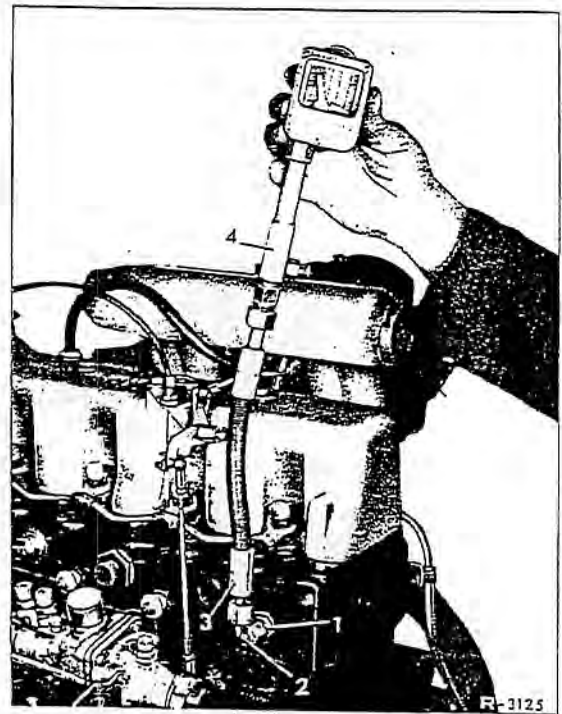

Fig. 00-5/1
5. On gasoline engines press the rubber cone of the compression recorder into the spark plug bore of the cylinder to be tested. On diesel engines screw the connector (1) into the glow plug bore of the cylinder to be tested; tighten well to provide a leakproof seal. For testing cylinders 2 and 3 attach the angular connector (2), Part. No. 000 589 00 90 00 to the connector (1) by means of the cap nut. Then attach the hose (3) of the compression recorder (4) to either the connector (1) or the angular connector (2) (Fig. 00-5/1).